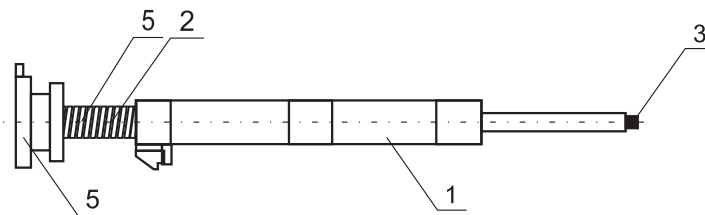

Fig. 5 – Firing mechanism
- ring (1),
- coupling (12) with firing spring guide.
9. Firing mechanism (Fig. 5) serves to fire the round which is in the chamber.